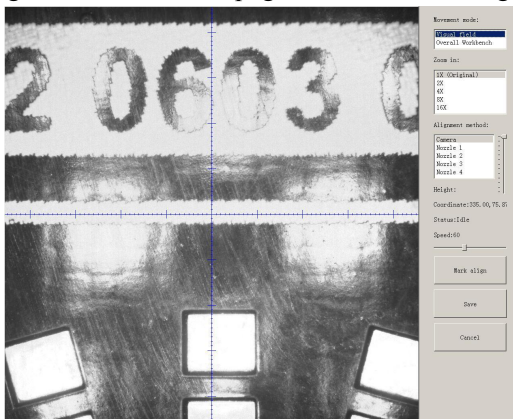

Fig.2
- ① Adjust the position of the board in rail via clicking items "Rail forward" and "Rail backward".
- ② Click "Position Align" and into below interface (See fig.2), then adjust the position of camera until to the limited place by clicking the image (See fig.3). Click "Save" item to save the setting, return to the main page to finish the setting.